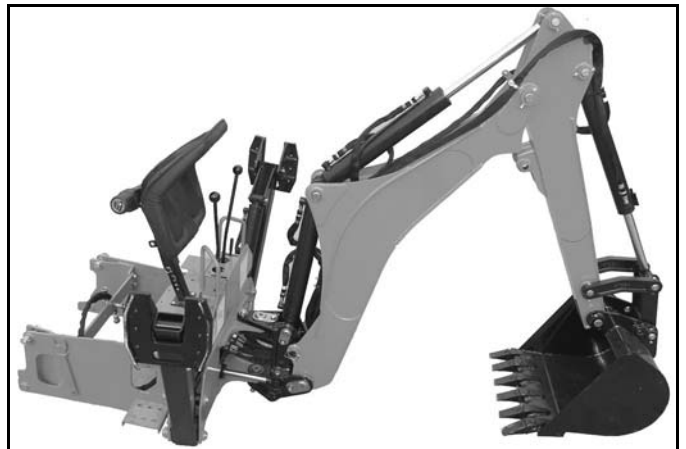

Figure 18. Backhoe Storage Position
11. Lower backhoe until backhoe main frame is firmly on the ground. Retract boom and dipper and place bucket cutting edge flat on the ground. See Figure 18. Connect transport lock and insert swing lock pin.